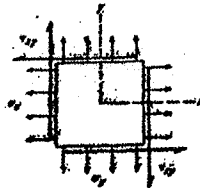

Fig.8 (a)
- 8(a) For a rectangular element shown in Fig. 8(a), the following numerical data are given $\sigma_x = 100 \text{ kg/cm}^2$, $\sigma_y = 75 \text{ kg/cm}^2$ and $\tau_{xy} = 50 \text{ kg/cm}^2$. Determine